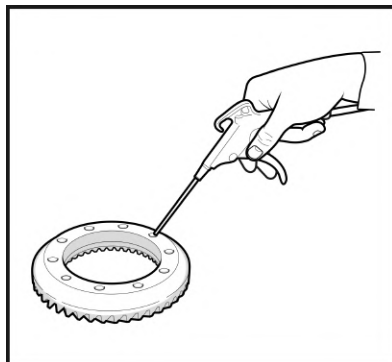

Fig. 15
2.4 Blow the mounting surface and the ring gear threaded holes clean with compressed air. (**Fig. 15**)